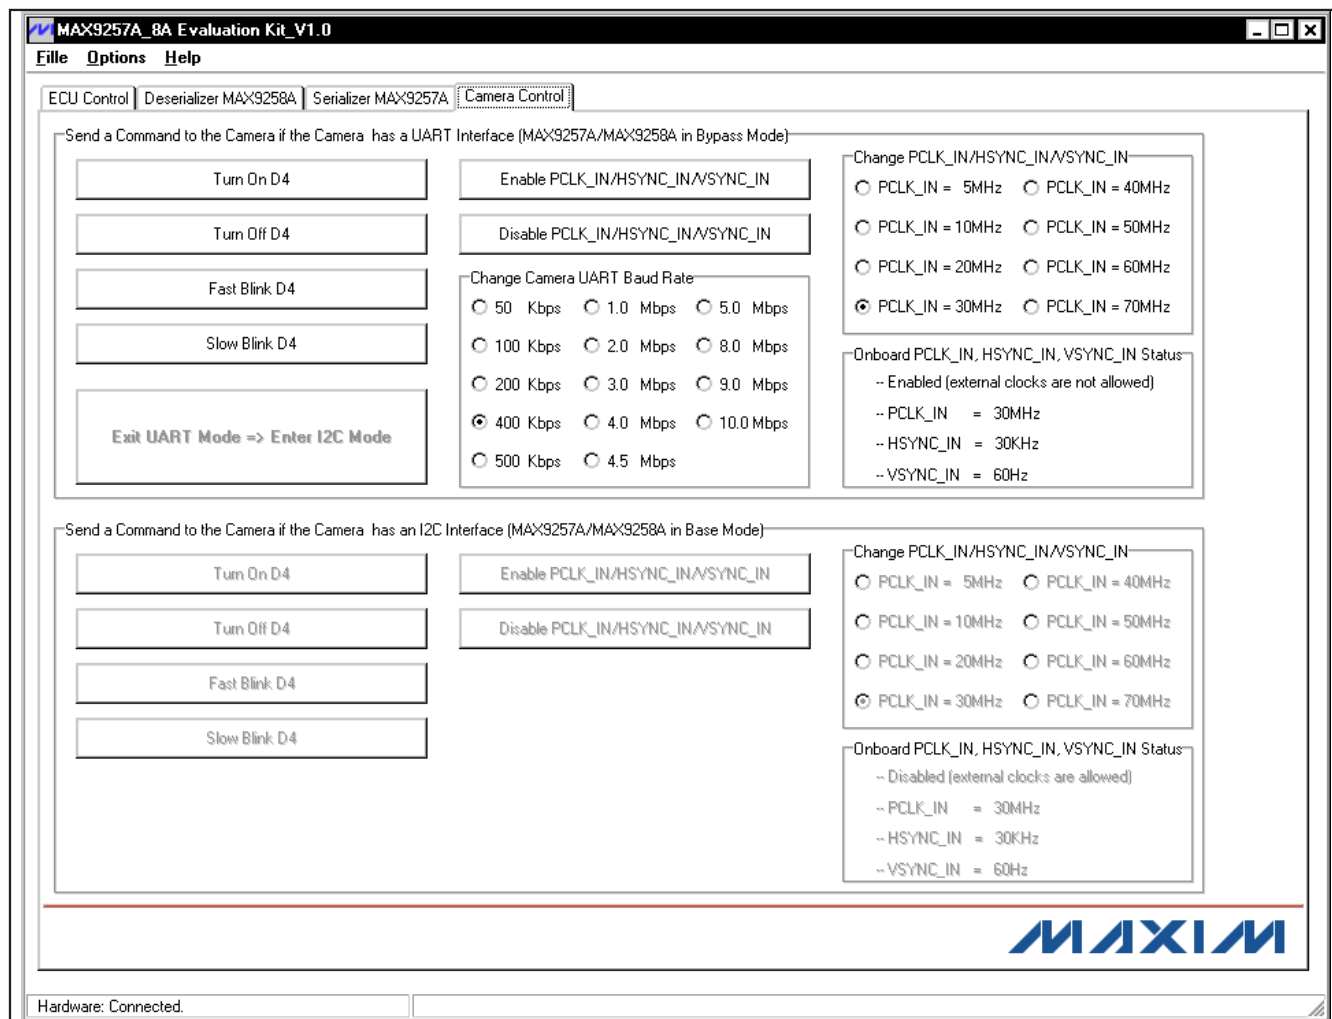

Figure 6. MAX9257A/MAX9258A Evaluation Kit Software—Camera Control Tab
- 23) Click on the **Camera Control** tab to move to the **Camera Control** tab sheet (Figure 6).
On the **Camera Control** tab sheet (Figure 6), the ECU can communicate to the emulated camera during a control-channel session.
- 10) Navigate to the **Camera Control** tab sheet (Figure 6). Press the **Turn On D4**, **Turn Off D4**, **Fast Blink D4**, and **Slow Blink D4** buttons, respectively, to verify that the ECU is communicating to the camera properly.
- 11) Navigate to the **Camera Control** tab sheet (Figure 6). On this tab sheet, all ECU commands to the camera follow this order in one control-channel session:
- 6) Navigate to the **Camera Control** tab sheet (Figure 6) and press the **Exit UART Mode** → **Enter I²C Mode** button (this button is available only when CTO is not equal to 0).